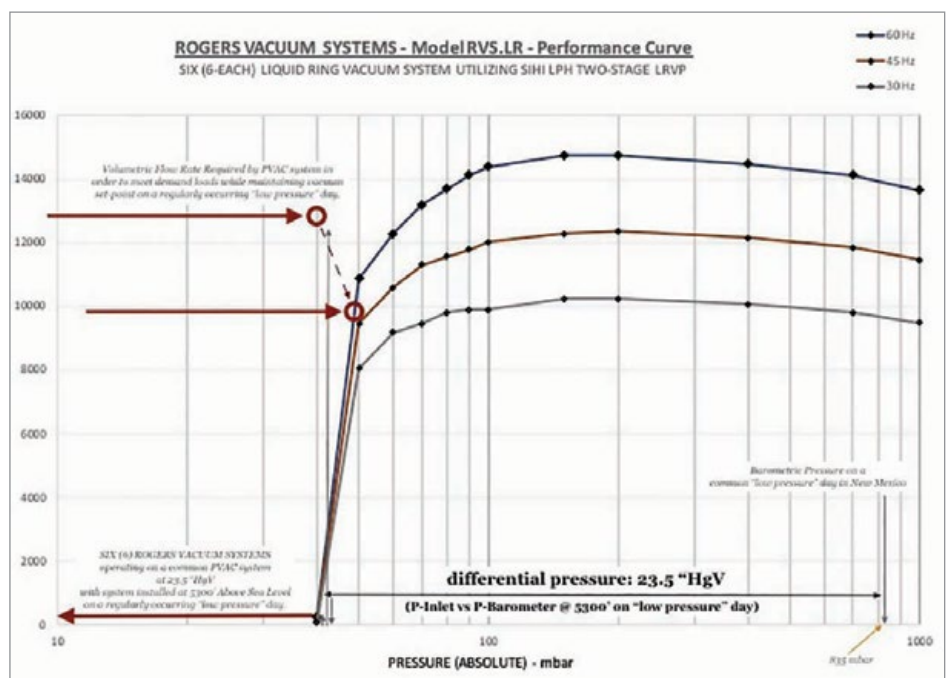

Figure 4. The performance curve of a liquid ring vacuum system.
The results on the chart in Figure 4 show the extreme benefit of a vacuum booster in this situation. Without boosters, the five (5) RVS.LR systems all running at 100% cannot meet the demand requirement while maintaining set-point. The desired operating point of 12,350 ACFM at 39 mbar is **outside** (above and to the left) of the vacuum systems performance capability.